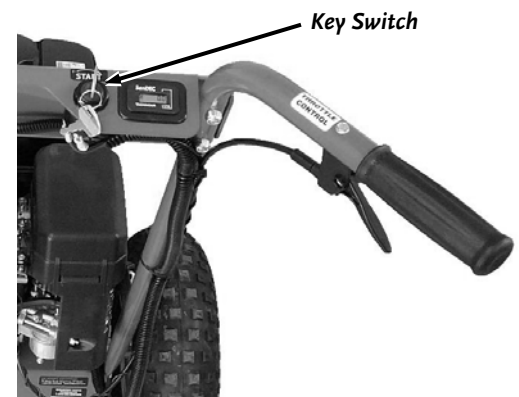

Figure 38
3. Hold down the Operator Presence Lever and turn the Key Switch fully to the “Start” position until the engine starts (**Figure 38**). The Key will move back to the center position when released.